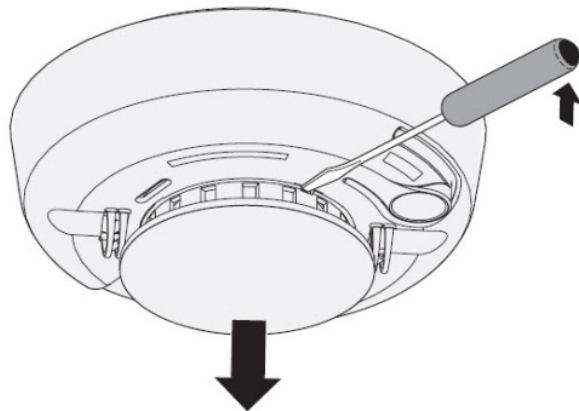

Figure 5.1: Remove the detector cap
3. Slide a slotted screwdriver in the slot on the sensor cap (*Figure 5.1*) and gently push down to pry the cap off.